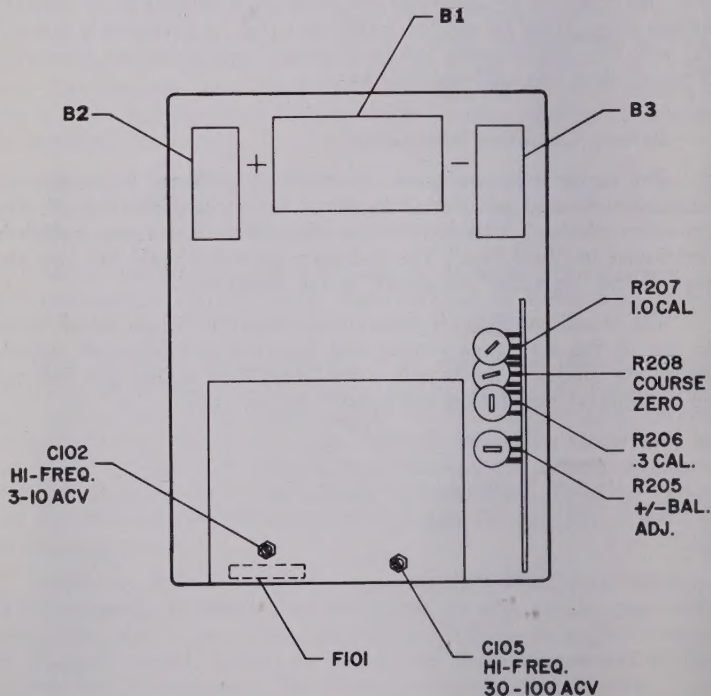

Fig. 1
3. Install D cell, observing polarity as indicated in Fig. 1.
4. Install two 9 Volt batteries, first snap battery terminal to batteries and then insert into side pockets as illustrated in Fig. 1.
3. Adjust COARSE ZERO CONTROL R208 (screw driver adjust on PC board, see Fig. 1), for a full scale or little beyond, meter reading.
4. Push MINUS push button, and adjust R205 (screw driver adjust on PC Board, see Fig. 1) for same exact full scale meter reading.
3. Apply .3 DCV and adjust R206 (screw driver adjust on PC Board, see Fig. 1) for full scale indication of 3.0 (this adjustment calibrates .3 — 3.0 — 30 — 300 AC-DC ranges).